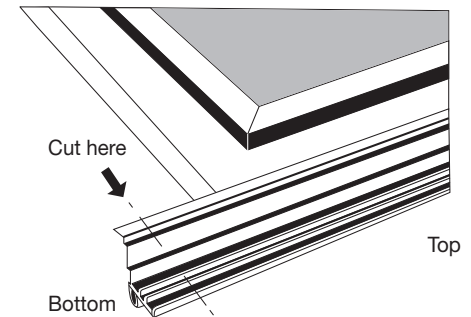

Fig. 4
Fig. 4 - Subtract 3/16" from the height – this is your trim length. Starting at the top of the door, measure and mark side jamb (B) piece at your trim length. Cut the bottom of each of the jambs.